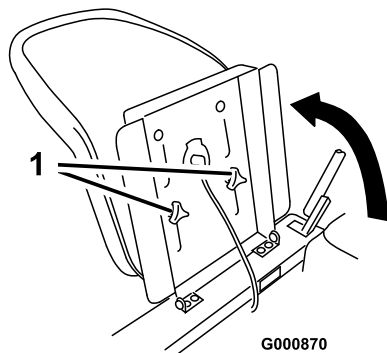

Figure 15
1. Raise the seat and loosen the adjustment knobs (Figure 15).